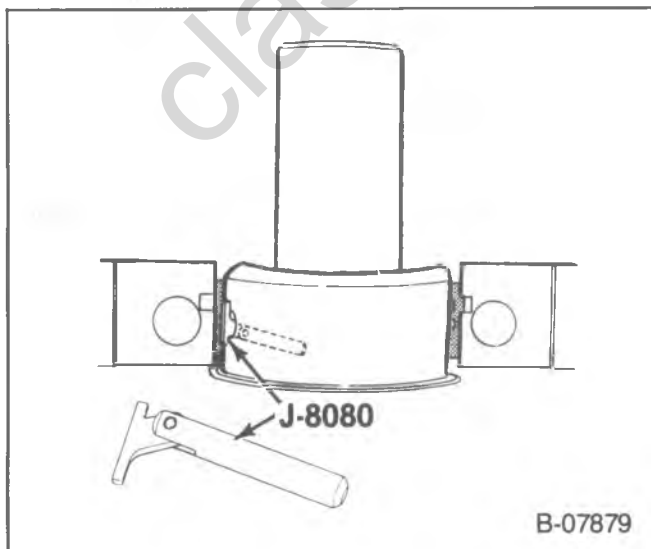

Figure 31—Removing the Main Bearings
Remove or Disconnect (Figure 31)
- Insert J-8080 into the crankshaft oil hole (figure 31).
- Insert tool J-8080 into a crankshaft main bearing oil hole (figure 31).